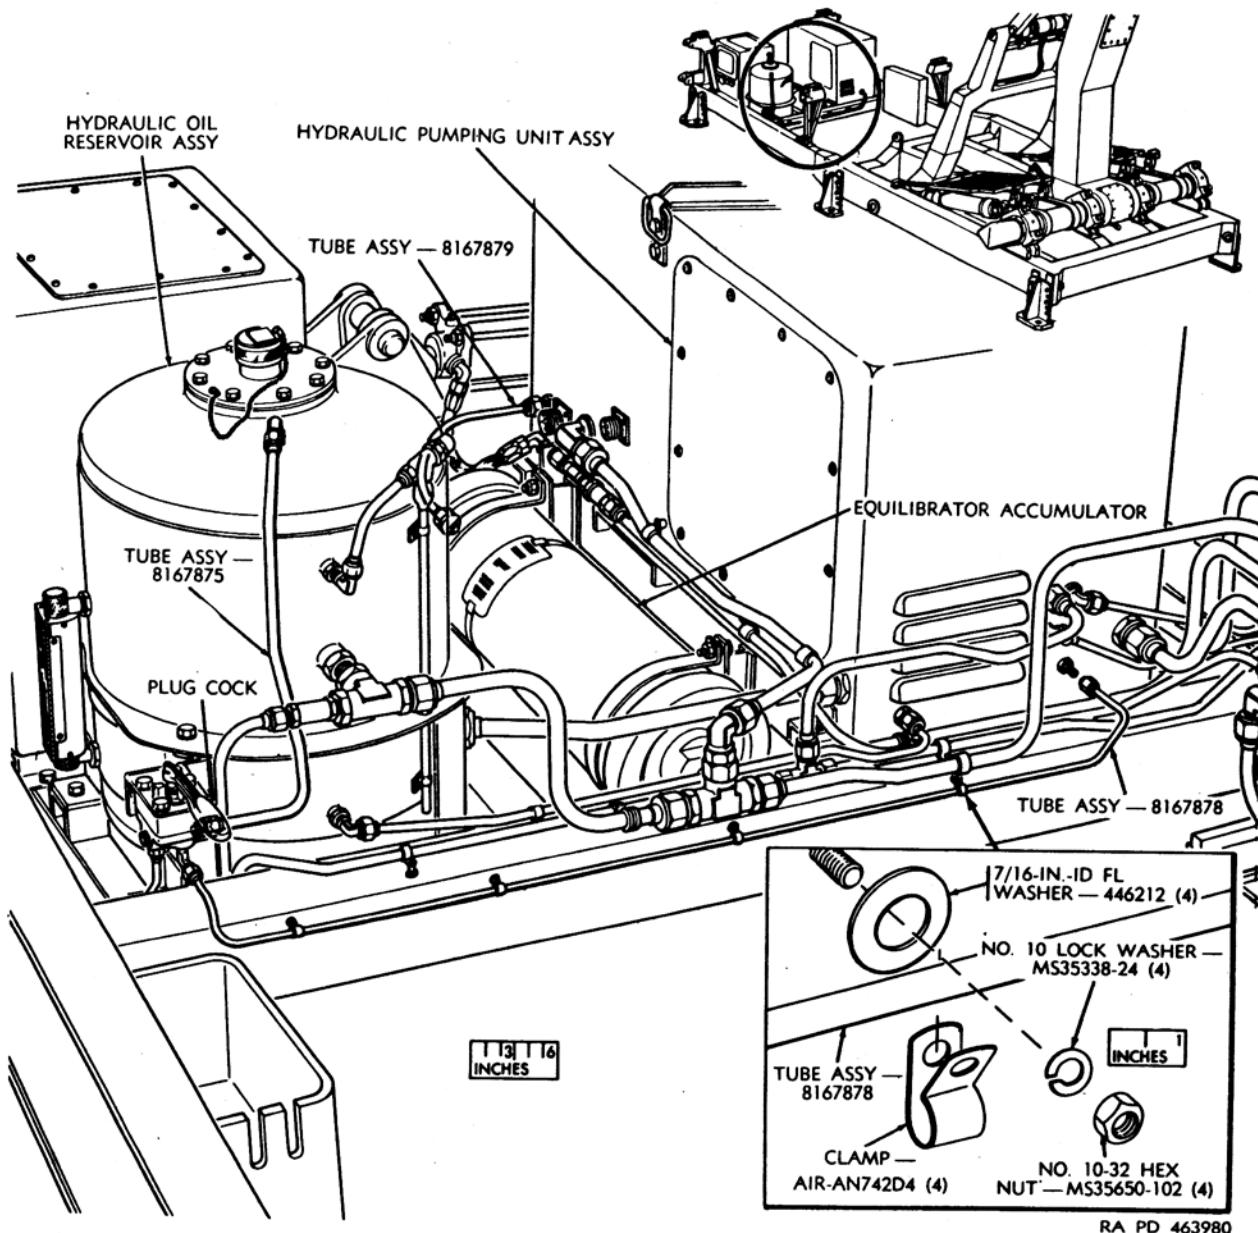

Figure 178. Precharge system hydraulic network - removal and installation.
The precharge system hydraulic network consists of three tube assemblies (fig. 178) and clamps. Tube assembly - 8167879 connects the hydraulic pumping unit assembly to the equi-
- (c) Remove the tube assembly (fig. 178) and cap the open lines.
- (2) *Installation.*
- (d) Remove the clamps (fig. 178) and the tube assembly, and cap the open lines.
- (d) Remove the tube assembly (fig. 178) and cap the open lines.